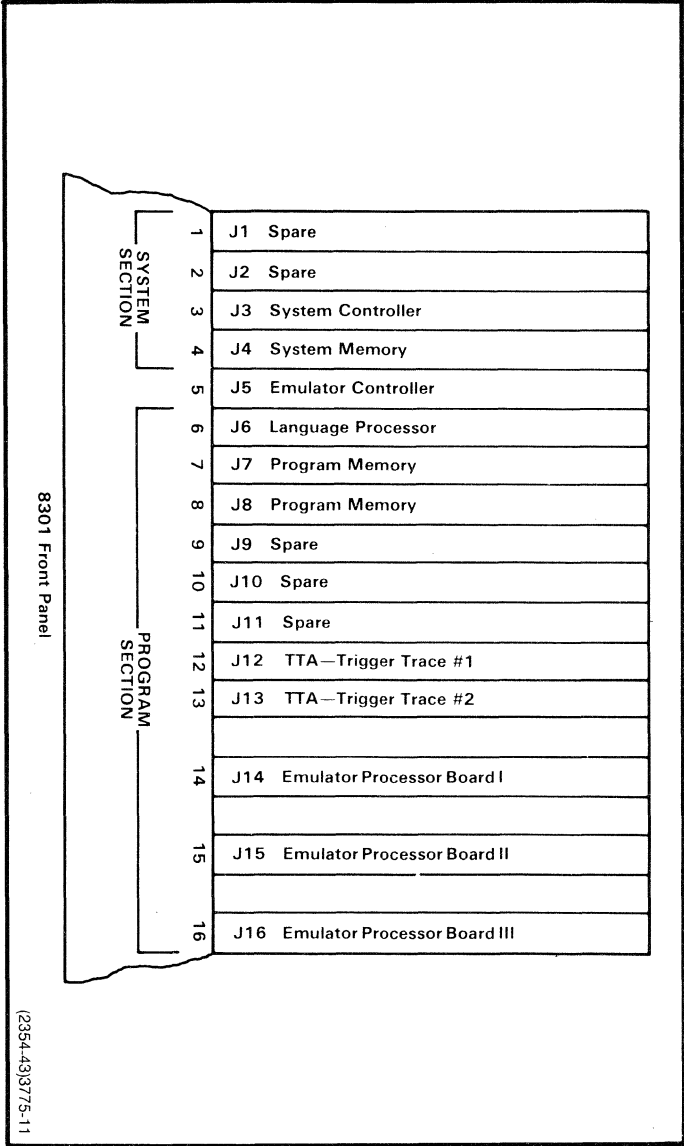
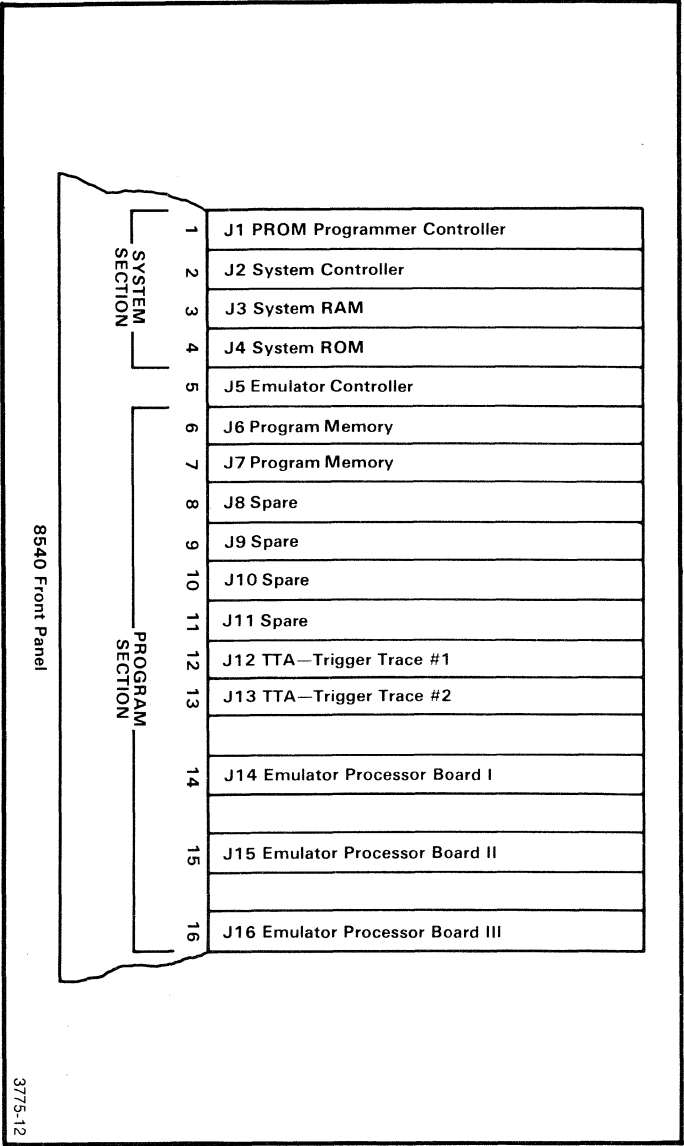

Figure 6-3. Recommended board arrangement for the 8301.
Figure 6-4. Recommended board arrangement for the 8540.
7. While holding all three boards, guide Board I into the vertical channel of J14 on the Main Interconnect Board. Next, guide Board II into the vertical channel of J15, then guide Board III into the vertical channel of J16. Refer to Figure 6-3 or Figure 6-4 for the recommended board arrangements of your development system.